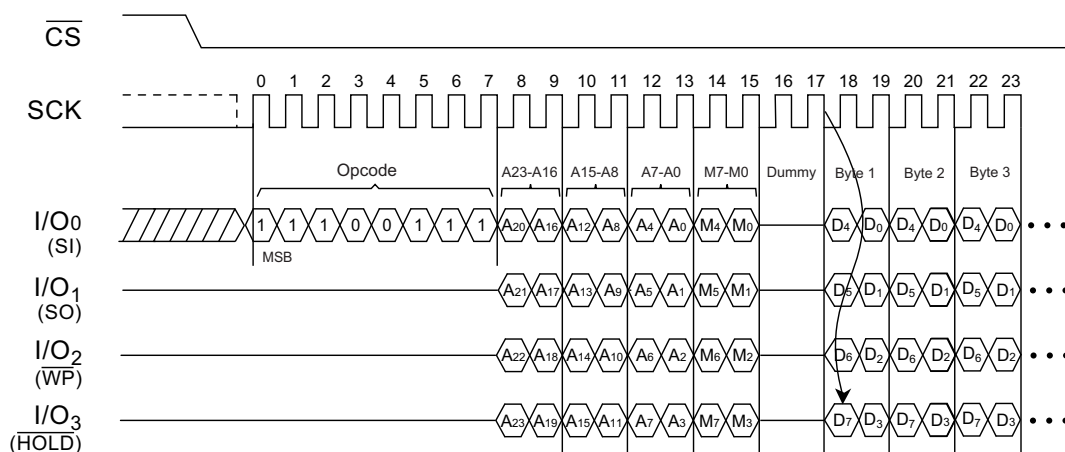

Figure 14: Quad I/O Word Fast Read Timing (Initial Command Set M5, M4 ≠ 1,0) SPI Mode
The Quad I/O Word Fast Read instruction is similar to the Quad Fast Read instruction, except that the lowest address bit (A0) must equal 0 and have two dummy clock cycles. Figure 14 shows the instruction sequence; the first byte addressed can be at any location. The address is automatically incremented to the next higher address after each byte of data is shifted out. The Quad Enable bit (QE) of the Status Register (S9) must be set to enable.